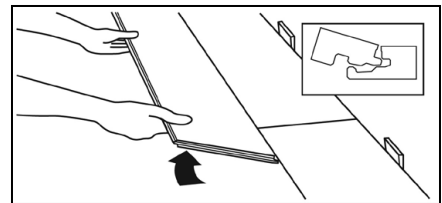

Fig. 19
2. Install the long end of the first board in the second row at an angle to the board in the first row (**Fig. 19**). Press flat to subfloor to lock into place.